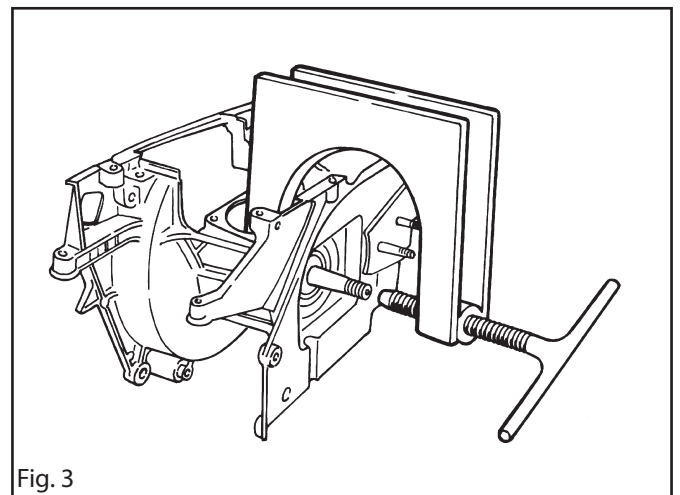

Fig. 3
5. Fit tool 50251 61-01 as shown in fig. 3 and remove the clutch side crankcase half.